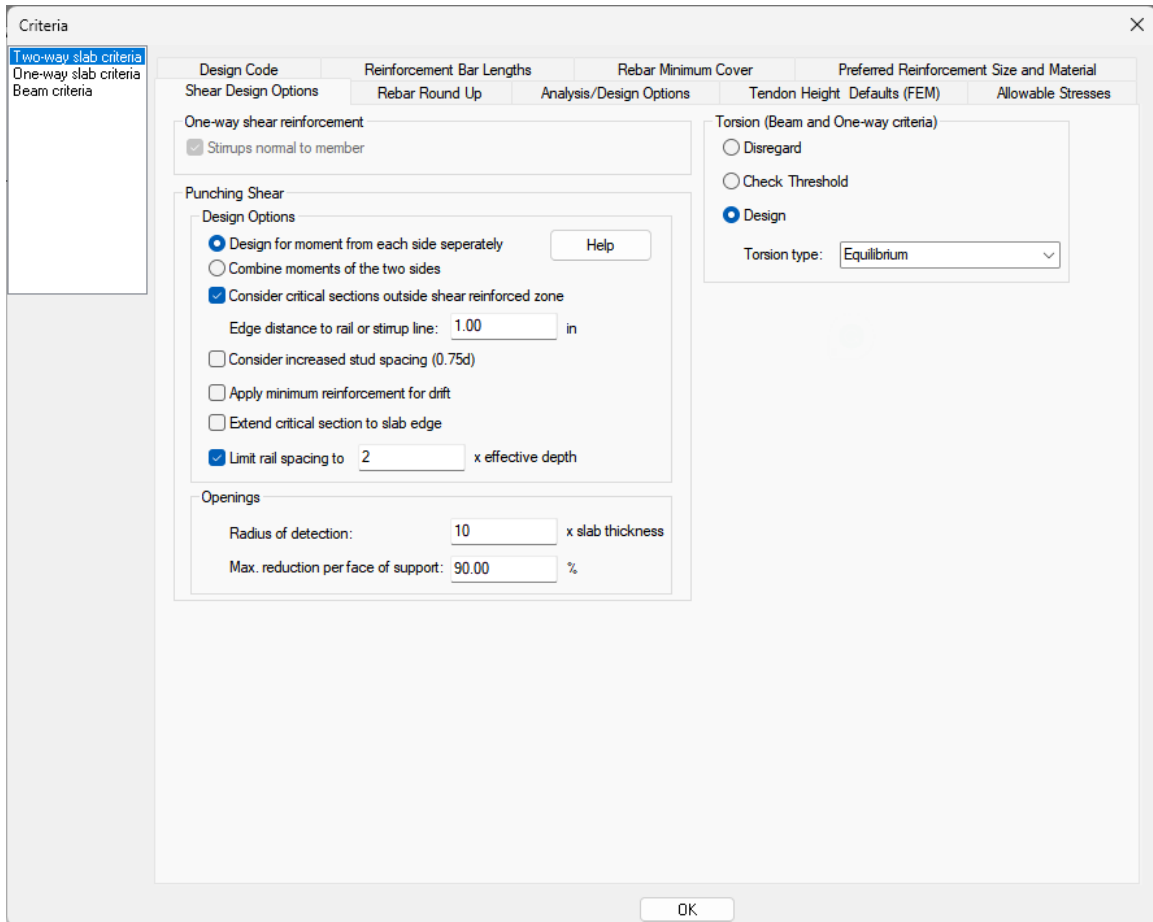

FIGURE 2-14
- Click on the *Shear Design Options* tab. This will open the window from **FIGURE 2-14**.